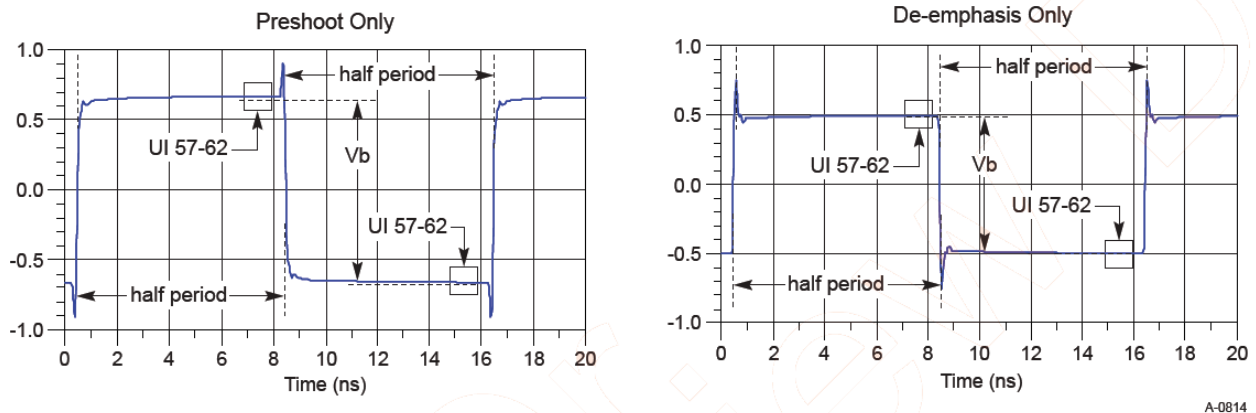

Figure 66 Waveform measurement points for preshoot and de-emphasis
8.0 GT/s, 16.0 GT/s and 32.0 GT/s PCIe signaling must support the full range of presets given in Table 8-1 (PCIe Base Specification Revision 5.0). Presets are defined in terms of ratios, relating the pre-cursor ( $V_c$ ) is referred to as pre-shoot, while the post-cursor ( $V_b$ ) is referred to as de-emphasis. This convention permits the specification to retain the existing 2.5 GT/s and 5.0 GT/s definitions for Tx equalization, where only de-emphasis is defined, and it allows preshoot and de-emphasis to be defined such that each is independent of the other. The tolerances in Table 8-1 (PCIe Base Specification Revision 5) also apply to 2.5 and 5.0 GT/s de-emphasis. The maximum swing,  $V_d$ , is also shown to illustrate that, when both  $c_{+1}$  and  $c_{-1}$  are nonzero, the swing of  $V_a$  does not reach the maximum as defined by  $V_d$ . The high frequency nature of PCIe signaling makes measurement of single UI pulse heights impractical. Consequently all amplitude measurements are made with low frequency waveforms as shown in Figure 66.